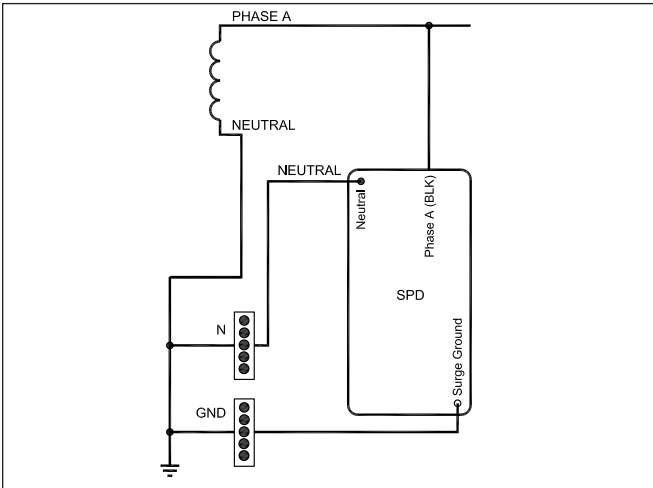
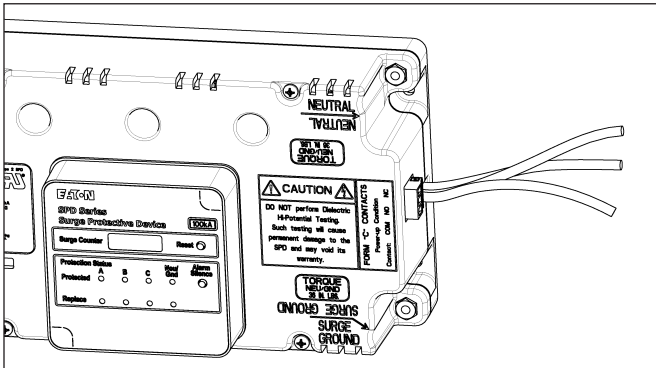

Figure 6. Wiring - single phase units (230 L)
Figure 15. Phase connections
6. Select the correct wiring diagram for the SPD you are installing. You must refer to this diagram while wiring the SPD. See Figures 6, 7, 8, 9 and 10.
- Connect phase wire to circuit breaker. NEC requires that conductors to a surge device be protected by an overcurrent protection device. The cables on the SPD are #10 AWG, therefore would require a 30A 3-pole breaker. See Figure 15, and the wiring diagrams shown in Figures 6, 7, 8, 9 and 10.